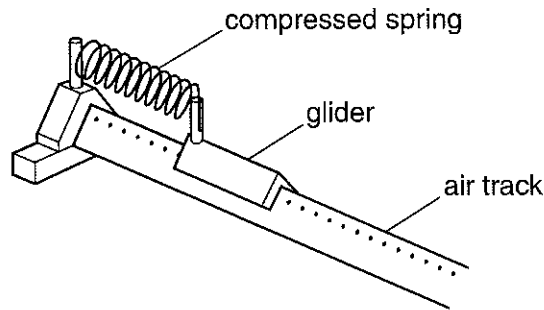

Fig. 6.2
- (c) A glider of mass 0.180 kg is placed on a horizontal frictionless air track. One end of the glider is attached to a compressible spring of force constant 50 N m^{-1} . The glider is pushed against a fixed support so that the spring compresses by 0.070 m, see Fig. 6.2. The glider is then released.